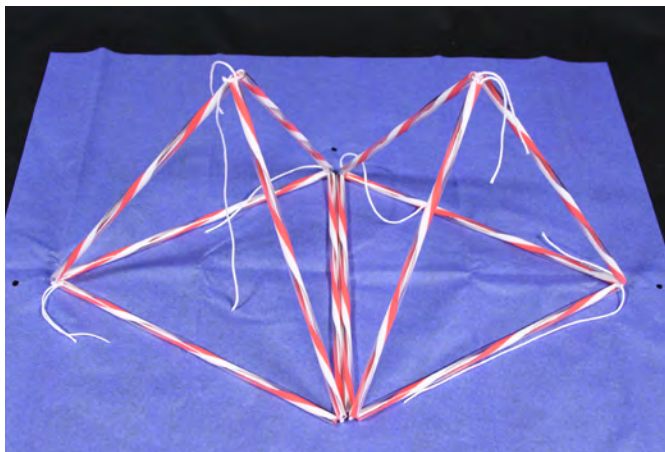

Fig. 7 One-inch marks to create template
7. See the picture below (figures 7, 8, 9 & 10). Your tissue paper should look like this: